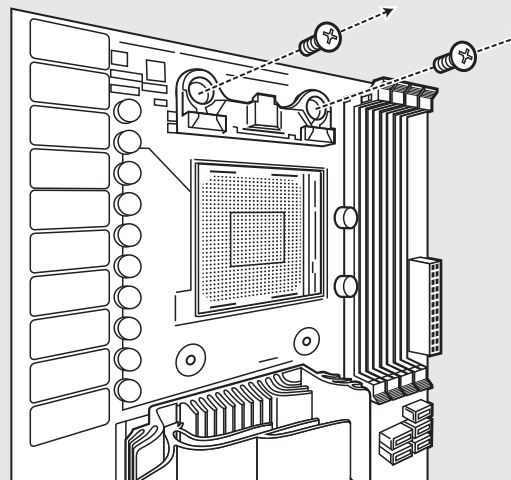

figure 1
- Entfernen Sie die angegebene/n AMD-Montagehalterung/en. (abbildung 1)
- Удалите стандартный монтажный кронштейн AMD для верхнего крепления. (Рис. 1)
- Remove the retention ring from the bottom of the pump. (figure 1)
- The retention ring is held on by four clips; press the clips in one at a time until all four are release to remove the retention ring. (figure 1)